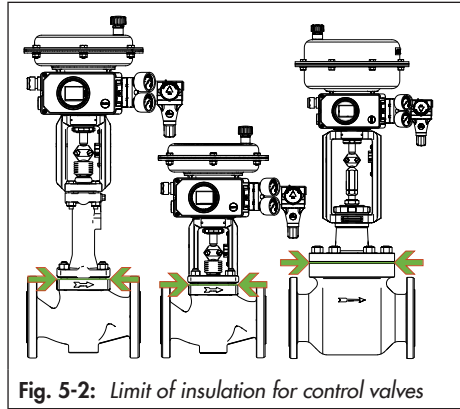

Fig. 5-2: Limit of insulation for control valves
- Only insulate control valves up to the bonnet flange of the valve body (see Fig. 5-2). This also applies to versions with bellows seal or insulating section at medium temperatures below 0 °C (32 °F) or above 220 °C (428 °F). If the insulating section is insulated, it will not function properly.